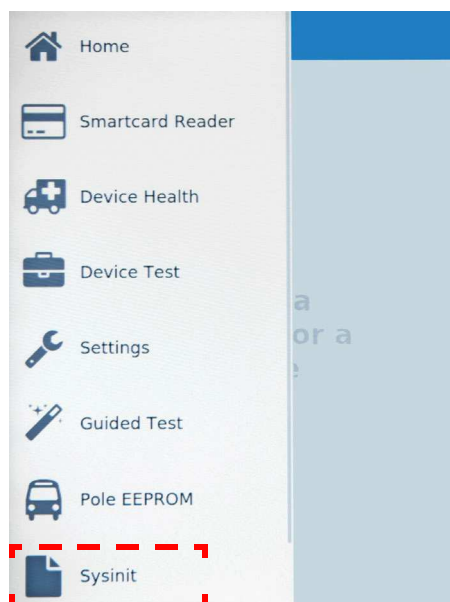

Figure 4-7 Validator Initialization (Workshop) 2
Step 9 Choose <Sysinit> in the menu (see **Figure 4-7**).